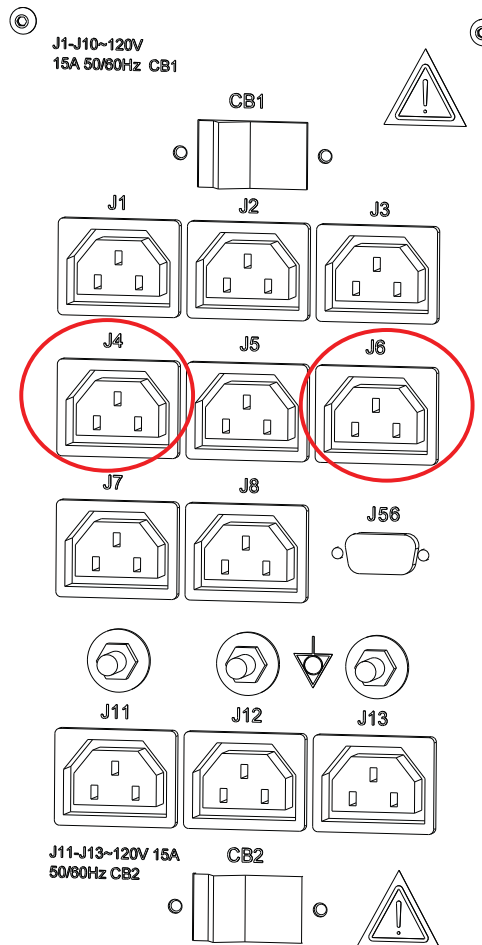

Figure D-15 AC Box J4 and J6
- 8.) Attach the AC power cable from the splitter to the J6 of the console AC Box. See Figure D-15. Connect the remote power cord to J4.